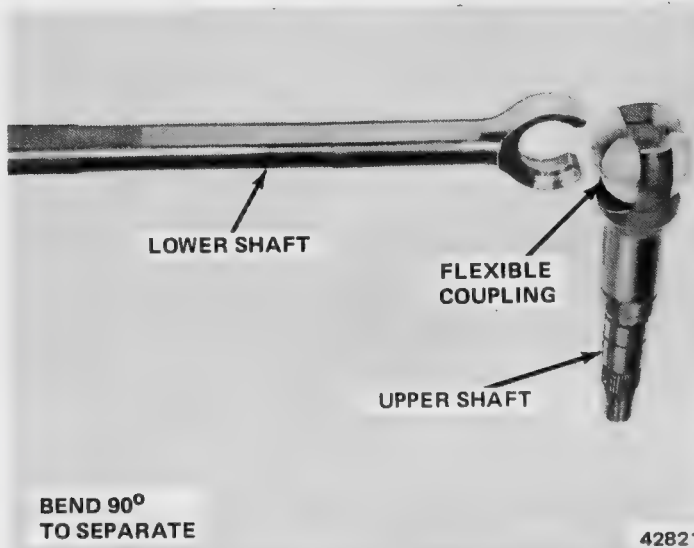

Fig. 2H-25 Steering Shaft Disassembly
(41) Remove retainer plate by rotating shift bowl clockwise, sliding plate out of jacket notches, tipping it down toward shift bowl hub at 12 o'clock position, and removing plate bottom side first (fig. 2H-27).
(42) Remove wave washer, preload spring, and shift bowl from column.